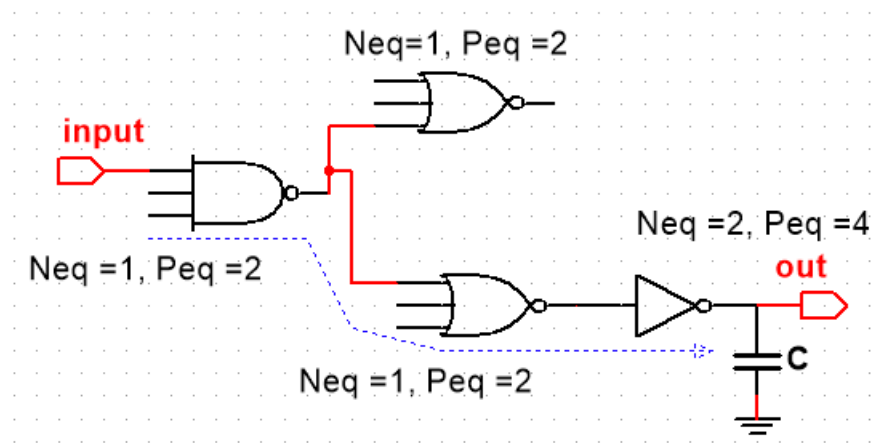

Figure 1
4. Create the layout for the Circuit shown above call it **hw2.MSK** in Figure1. Use insert Layout to get the layouts of the NAND3, NOR3 and inverter. Connect all Vdds and Grounds together. You will need to use Metal to connect the output NAND3 gates to one of the two NOR3 gates.(It may differ depending on your layout, but you will need to use Metal 2 for one of the connections).
Second: Use the Logical Effort model to compute manually the delay of the circuit in Figure 1.